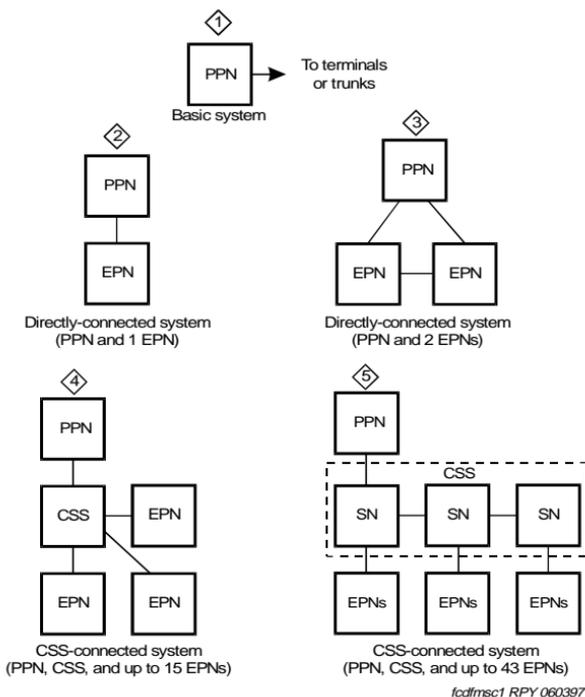

Figure 2. Main System Configurations
The basic system component is the Port Network (PN), consisting of port circuits connected to internal buses that allow the circuits to communicate with each other. See Figure 2.
Figure 2 shows the following 5 main system configurations: